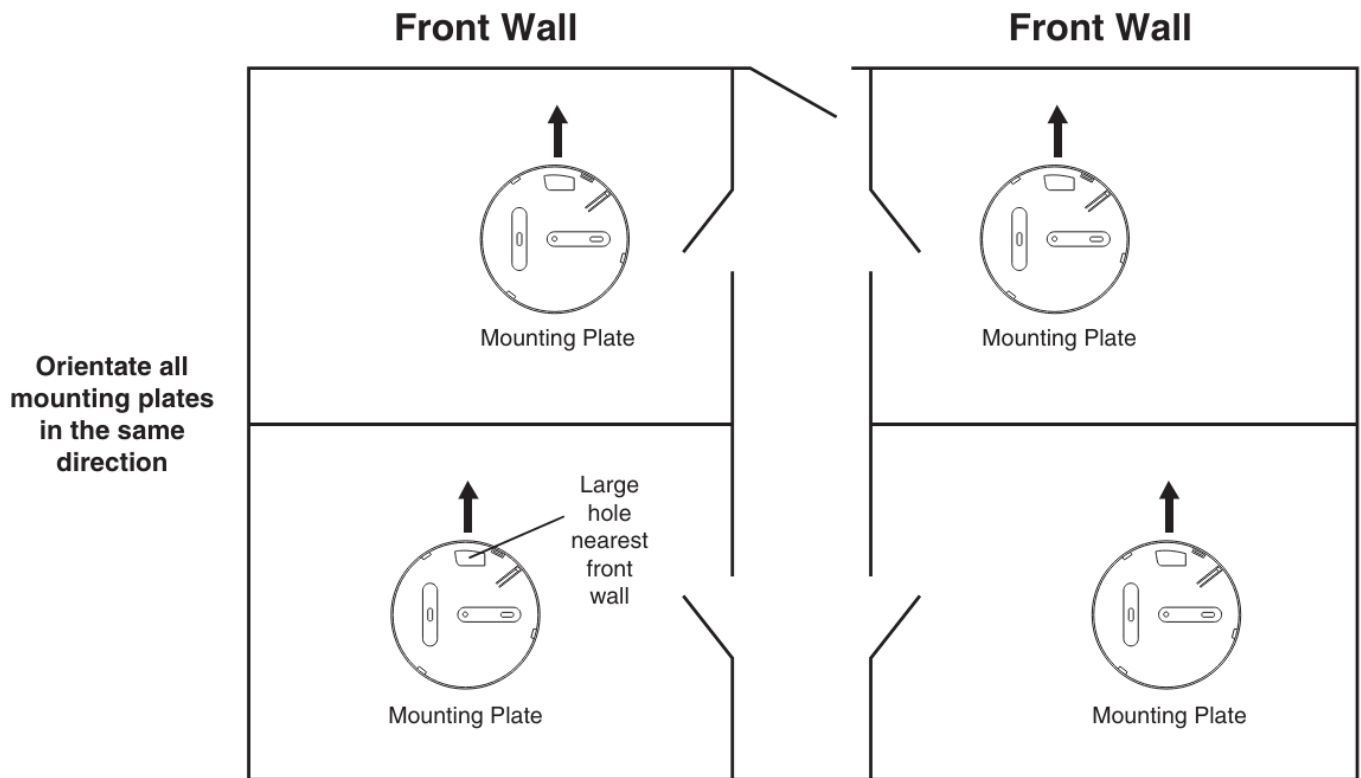

Fig.7
5. If using an RF interconnection, ensure all Alarms are facing the same direction. This means picking a part of the building, say the front of the building and then installing all mounting plates in the same orientation with respect to this (see Figure 7).